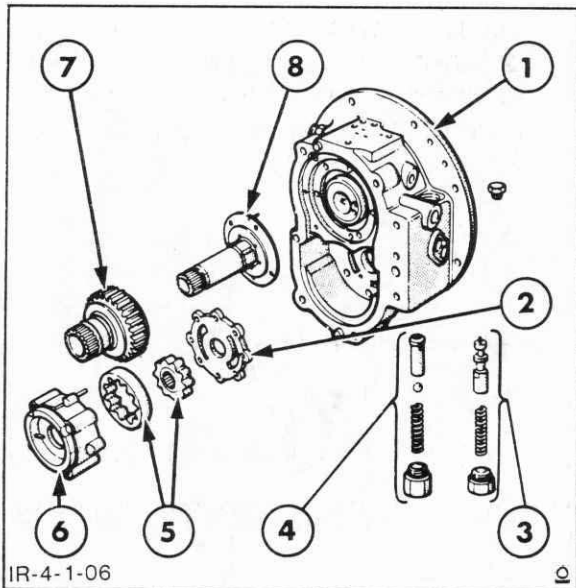

Figure 4-69
4. Remove the hydraulic pump retaining bolts and lift the pump assembly from the distributor housing, Figure 4-69.
5. Remove the by-pass valve plug and extract the shim, spring ball and valve seat, Figure 4-69.